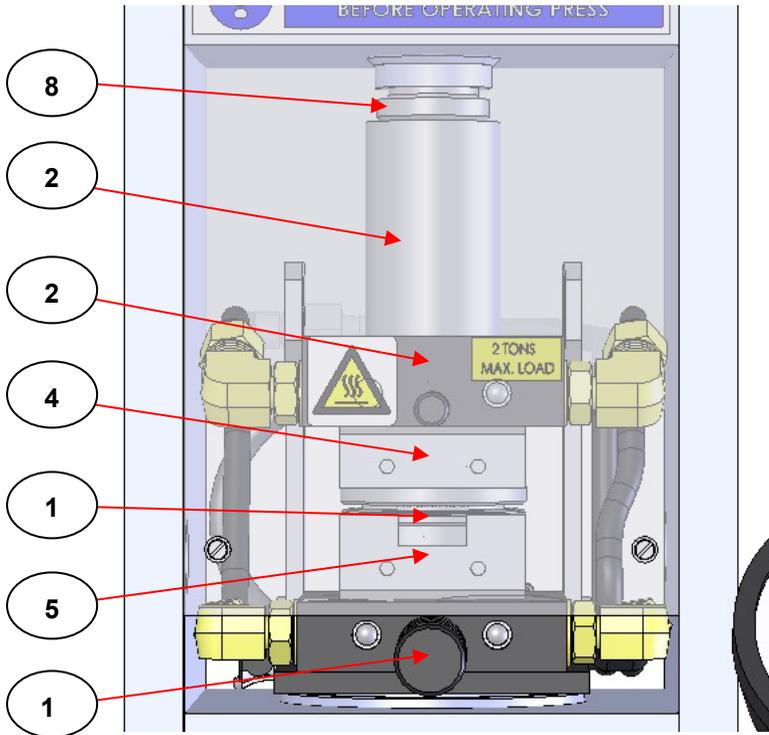

Fig 19. Components of Pressing System in Sampling Position Loosely Clamped Together Prior to Heating
Replace the spacer bar (20) centrally onto the top cooling block (2) and slowly lower the top bolster pressing surface (8) by a clockwise rotation of the lead screw (9) until **all the components of the pressing system** (the top bolster surface (8), the spacer bar (20), Top Half Assembly, foils and sample “sandwich” and Lower Half Assembly) are just touching each other. These components should be loosely clamped together at this stage, prior to heating and melting of the sample. (See Fig 19.)
Carefully lower the front safety guard of the Manual Hydraulic Press such that it comes to rest on the loading handle (12) of the Lower Half Assembly (that is projecting out of the front of the Press), prior to any tonnage load compression. (See Fig 19.)